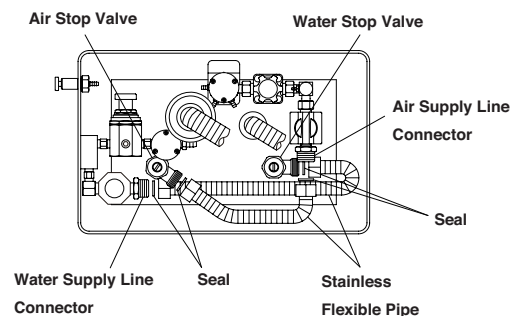

Fig.5-8 Water and Air Supply Line Connection
(3) Water and Air Supply Line Connection
- B. Connect the water supply line to the water stop valve with the stainless flexible pipe and the seals. (Fig.5-8)
- C. Connect the air supply line to the air stop valve with the stainless flexible pipe and the seals. (Fig.5-8)